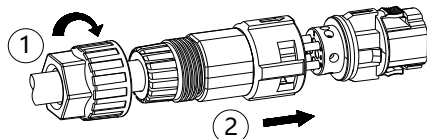

FIG.6 Assembling the Connector
- 4) Tighten the pressure nut, and then push the threaded sleeve into the plug, as per FIG.6.